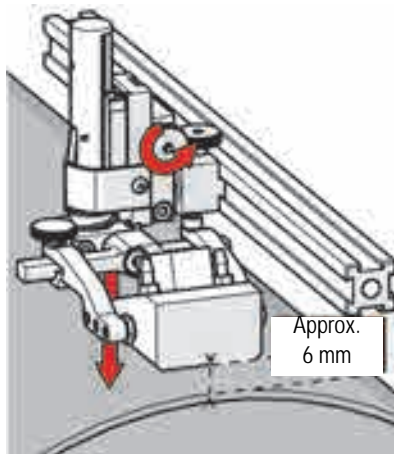

Figure 4-57 Lower toward scan surface
2. Loosen the vertical adjustment knob and slide the probe holder down until the wedge is approximately 6 mm (0.25 in.) above inspection surface (see Figure 4-57 on page 138), and then tighten the vertical adjustment knob.